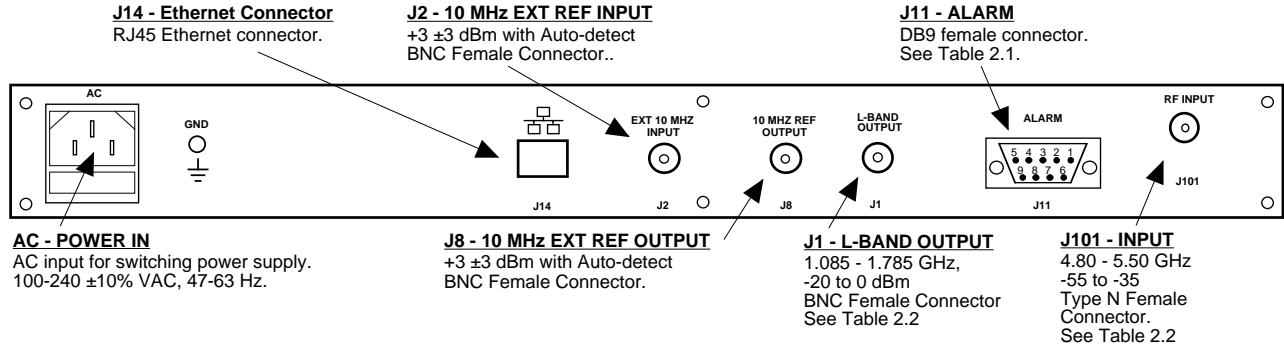

FIGURE 2.1 3116-4855# Rear Panel I/O's
Figure 2.1 shows the input and output connectors on the rear panel.
1. Connect a -55 dBm to -35 dBm signal to RF IN, J101 (Figure 2.1).